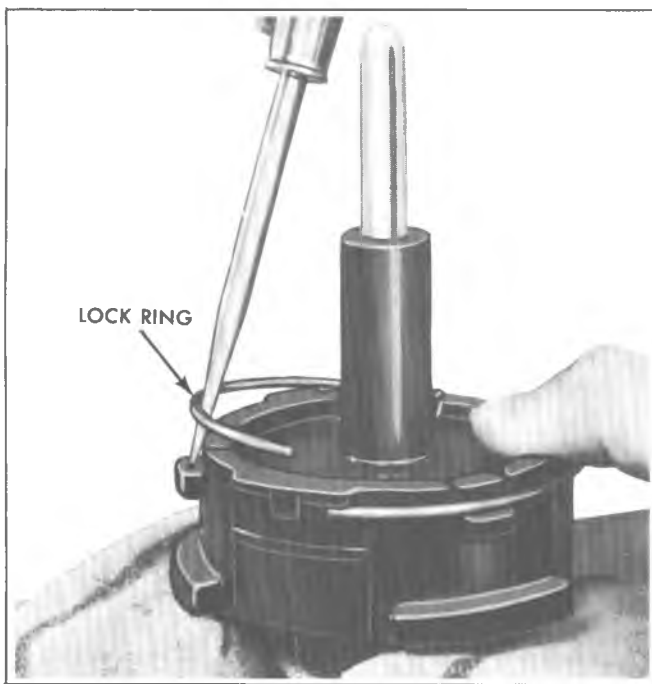

Fig. 5-6C—Removing Lock Ring From Power Piston
3. Remove lock ring from power piston by prying one end out from under large divided locking lug and then proceed to pull ring from under other two locking lugs on power piston (fig. 5-6C).